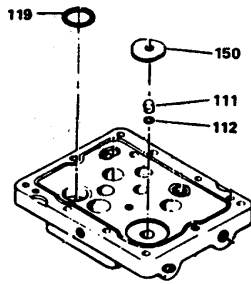

Figure 12-19. Base and Parts
- (c) Place piston (137), pivot washer (136), and elastic stop nut (135) into the case as shown. Thread nut (135) onto pivot link (148) nine to nine and a half turns.
- (d) Tighten and loosen nut (135) until no pivot motion exists between power pistons (152 and 133). Optimum adjustment is when the pistons have no play and are not tight.
- (14) Refer to figure 12-19 and place packing (119) in base. Lubricate and put packing (112) on plug (111) and push into base. Put spring washer (150) (concave side up) in place on top of plug (111) in base.